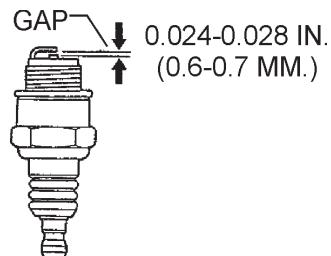

Figure 23. Spark Plug Gap
- Remove and clean the spark plug (Figure 23), then adjust the spark gap to 0.024 ~ 0.028 inch (0.6~0.7 mm). This unit has electronic ignition, which requires no adjustments.